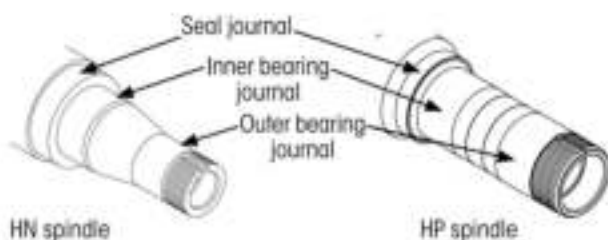

Figure 8: Spindle seal & bearing journals
2. Inspect machined spindle journals (Figure 8) for nicks, scratches, burrs or marks. If needed, use crocus cloth or emery cloth to repair any damaged areas.
1. Taking care not to damage the seal, gently slide the hub onto spindle until the seal is against the spindle seal journal (Figure 8).